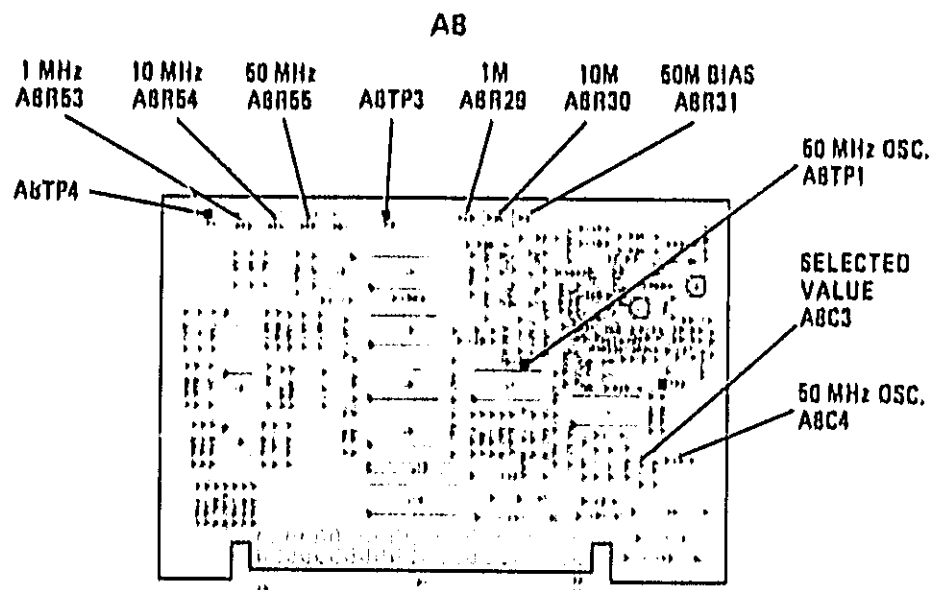

Figure 5-40. External Marker Adjustments Location
3. Connect oscilloscope probe to A8TP4 (Figure 5-40). Observe the birdie amplitude and adjust EXT GAIN (A8R67) for 1.5V p-p.